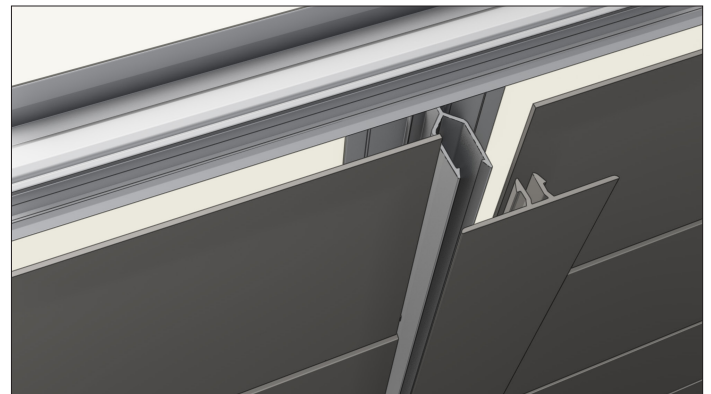

Figure 21.4
28. Install top caps by setting it into the receiving engagement of the back plate. (Figure 21.4)